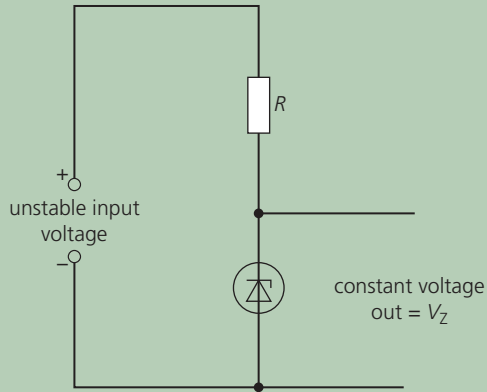

Figure Q2
- b. The student decides to use the circuit shown in Figure Q2, using a Zener diode of 4.7V to give a constant voltage to the USB device. The operating current of the Zener diode is 15 mA.